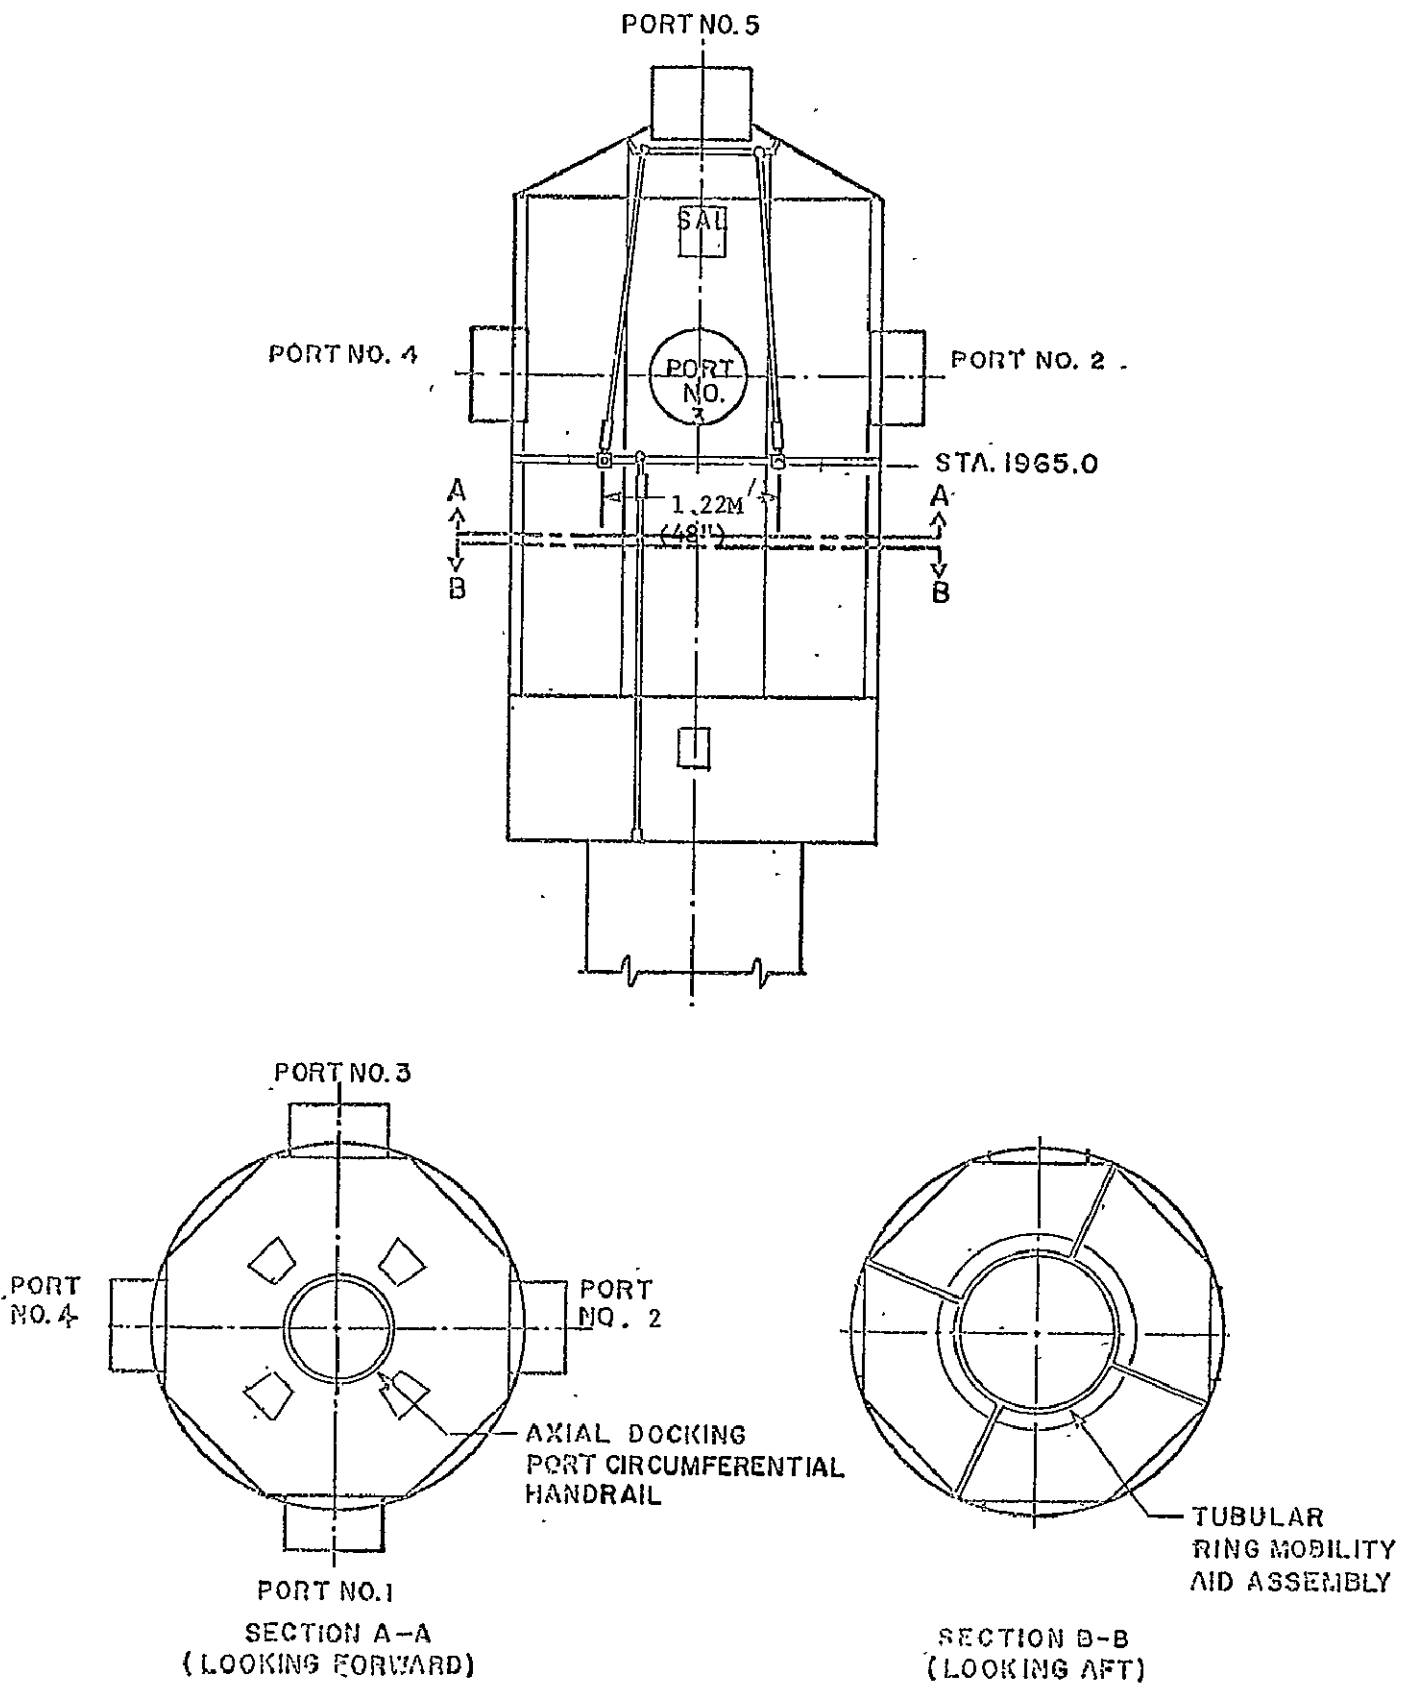

FIGURE 3. TUBULAR RING MOBILITY AID CONCEPT
- c. Tubular ring and radial handrails; adjustable handrails; and adjustable handrail poles (See Figure 3).